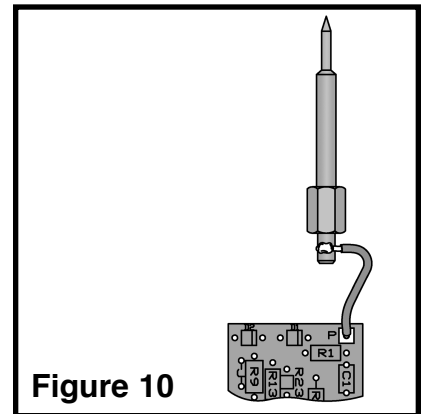

Figure 10
- ❑ Install the probe tip as shown in Figure 10. Using the 1 1/2” wire, strip 1/4” of insulation off of both ends. Solder one end to point P on the PC board. Solder the other end of the wire to the probe tip groove.